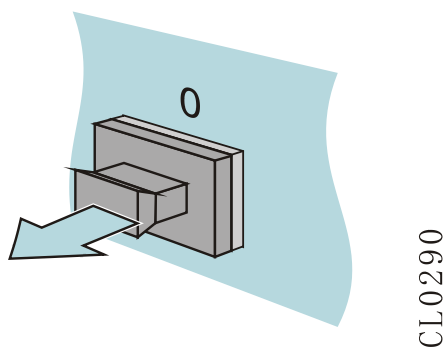

Figure 4-12 Pull out the dust plug
- Step 2: Pull out the dust plug on the optical interface of the router, as shown in Figure 4-12.